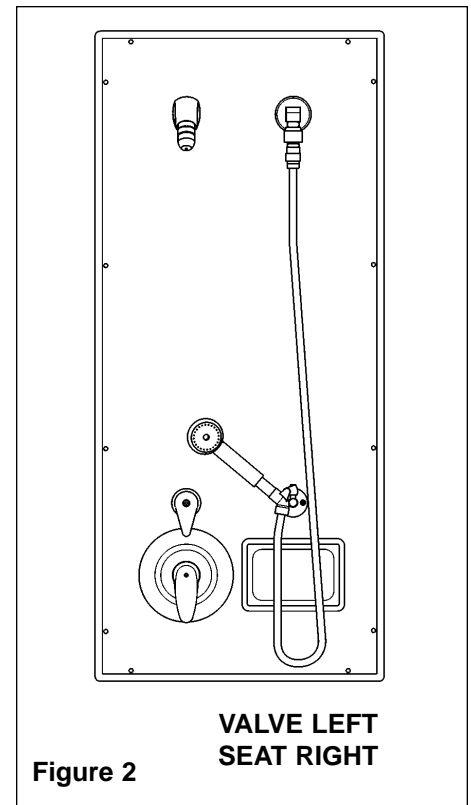

Figure 2
1. Make water supply connections to the stainless steel hoses (see Figure 2). Equa-Flo™ and Thermostatic= 1/2" NPT Hot and Cold supplies. Single Valve, Accu-Zone™ Infrared Control, Air Valve and Touch Time™ = 1/2" tempered supply.